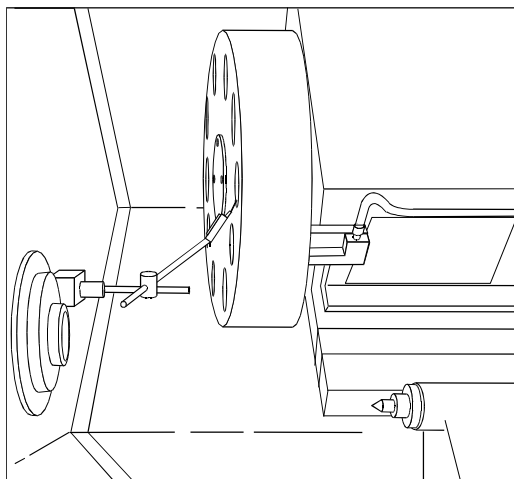

Fig. 3-2 Dial indicator in position to check Z-axis.
1. Place a dial indicator and base on the spindle retaining ring with the indicator tip positioned on the face of the turret as shown in Fig. 3-2.
An alternate method for checking backlash is to place the dial indicator as shown in Fig. 3-2 and manually push on the turret in both directions. The dial indicator should return to zero after releasing the turret.